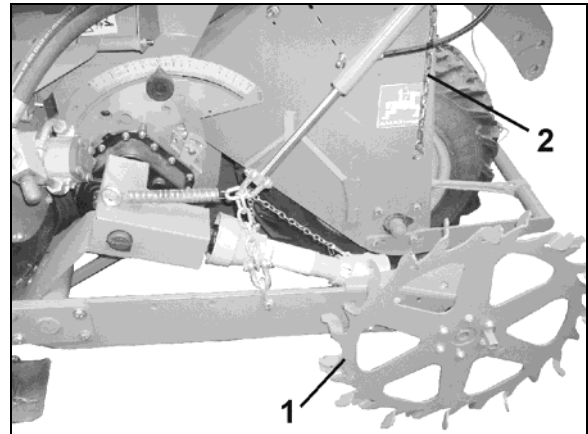

Fig. 68
1. Just before starting operation, the star wheel (Fig. 68/1) must be unlocked (Fig. 68/2) and lowered (*beige* control unit), and the control unit must be put into float position.